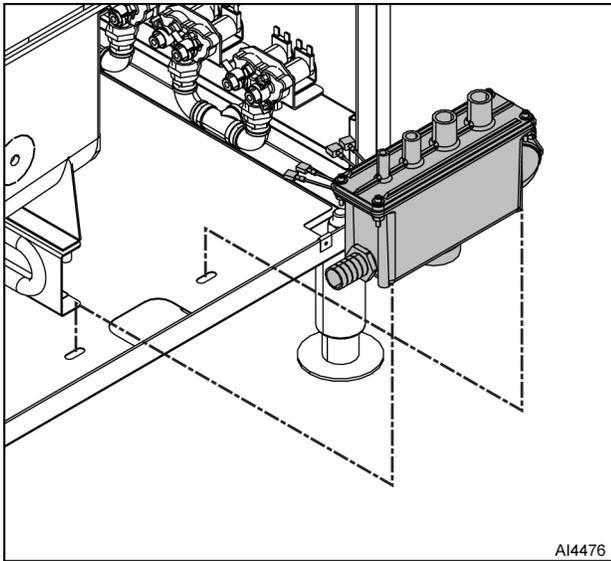

Fig. 20
- Pressure relief hose (5).
7. Remove two screws and drain box (Fig. 20).